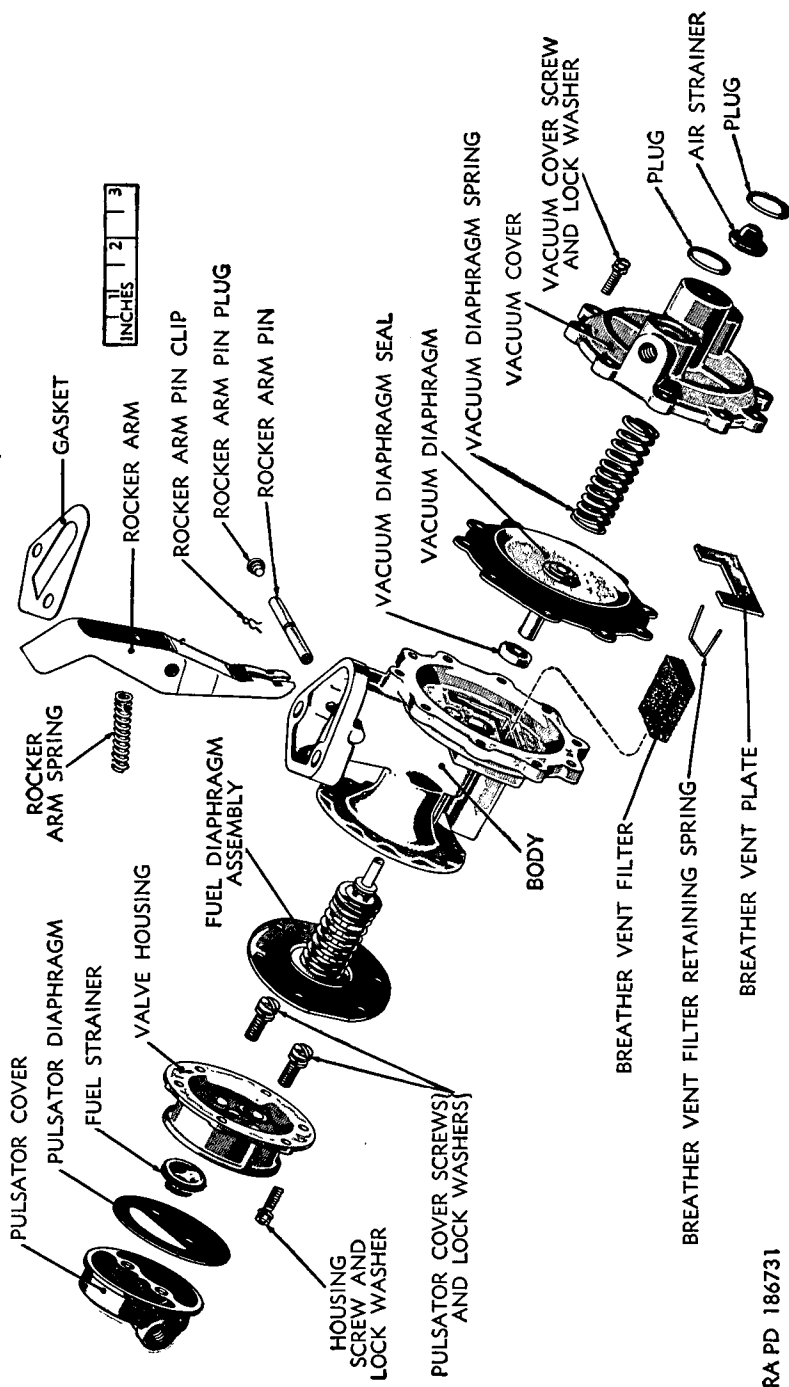

Figure 71. Fuel pump with vacuum booster (model M797S)—exploded view.
*a. General.* Repair and rebuild of all vacuum booster type fuel pumps are similar to the instructions contained in this section for the model M797S fuel pump (fig. 70). This model represents a typical vacuum booster type fuel pump. Refer to figure 71 for disassembly and subsequent assembly procedures.